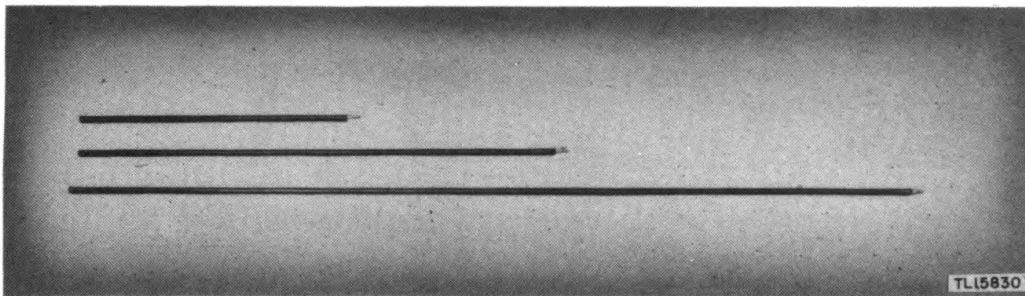
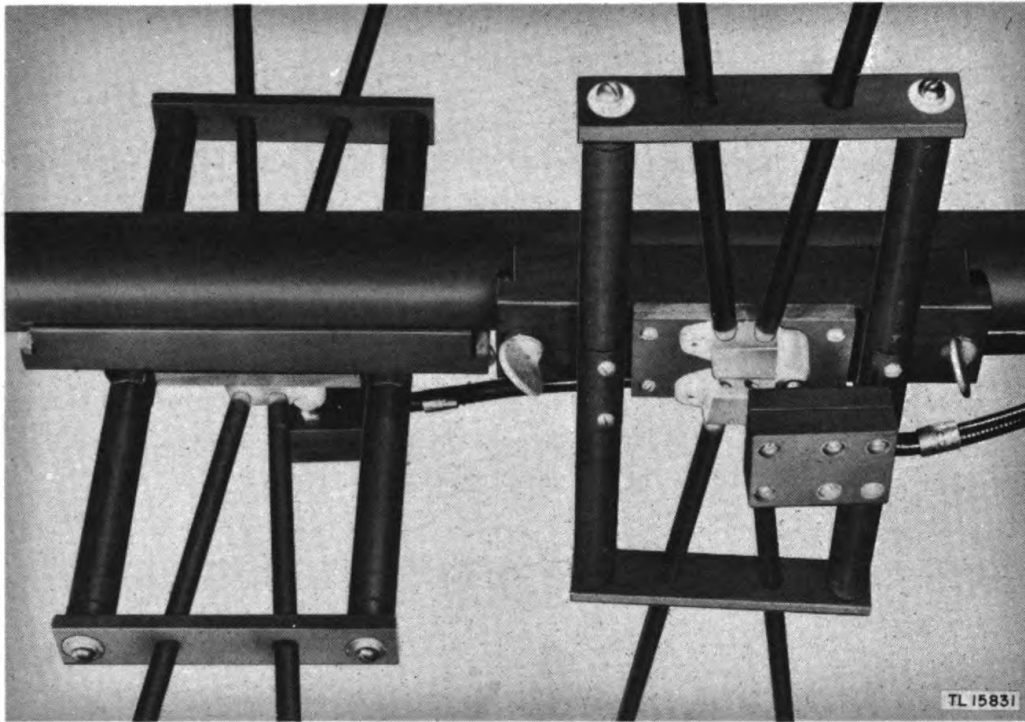

Figure 5. Antenna elements.
Figure 6. Two dipole mounting assemblies, with cables connected and elements in place.
- (3) Insert the antenna elements (fig. 5) into the connection blocks through the bakelite insulators at the ends of the dowel spreaders. Push the rods all the way in so that the tapered portion of the banana plug seats in the tapered part of the hole in the connection block. The eight 23-inch antenna elements are for TIER-1; the eight 41-inch antenna elements for TIER-2 and the eight 71-inch elements for TIER-3. Figure 6 shows one tier installed.